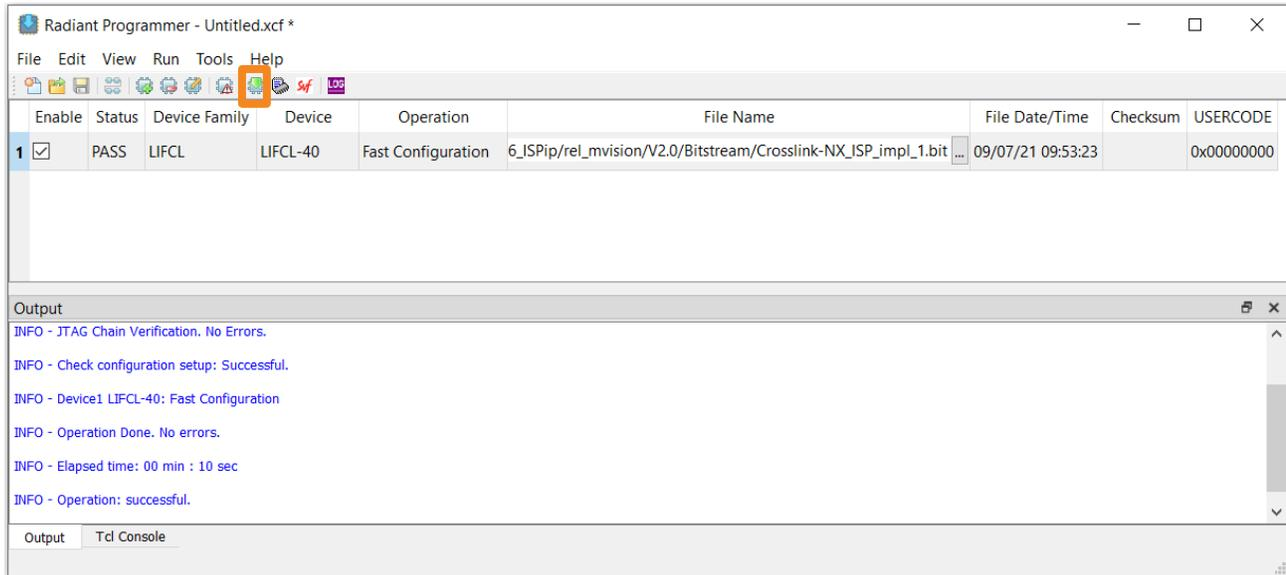

Figure 5.3 CrossLink-NX Board Programming Status and Result
6. Click the Program Device icon  from the toolbar, or choose the **Design > Program** menu item from Radiant Programmer, to program the CrossLink-NX board. Check the programming status and result (Figure 5.3).